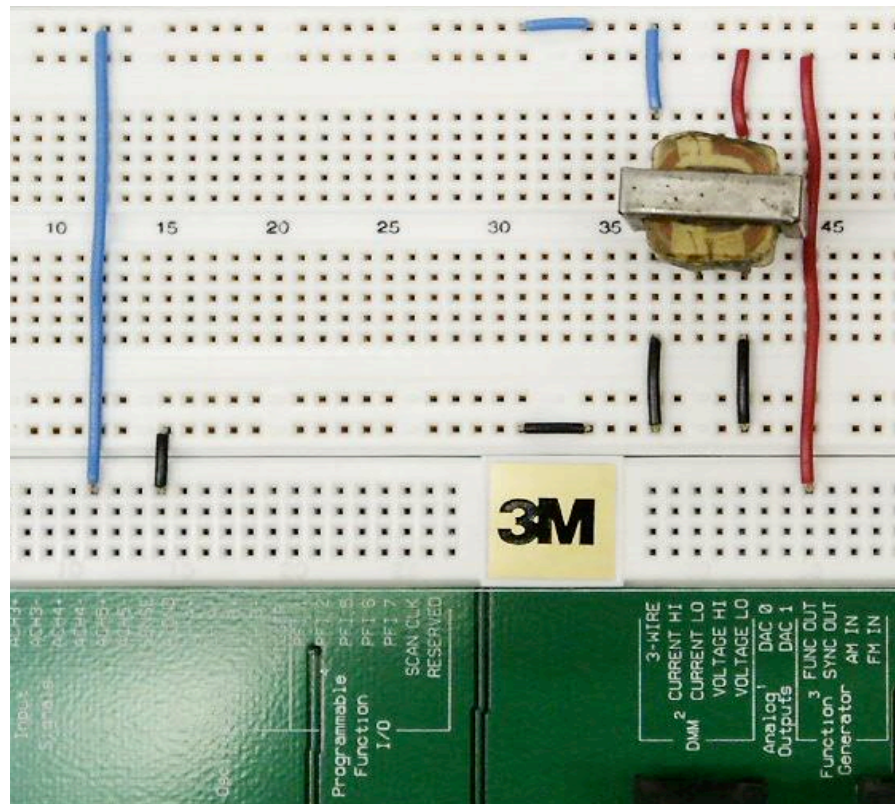

Figure 2. Component Layout for transformor circuit
1. Construct the circuit as shown in figure 2 on the NI ELVIS Prototyping board. Connect pin 1 of the primary to **FUNC OUT**; connect pin 3 of the secondary to **ACH5+**; connect pin 2 and pin 4 of transformer to **AIGND**.